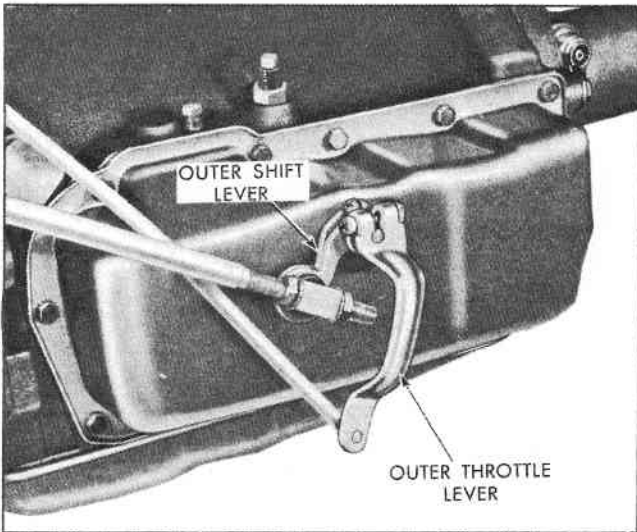

Fig. 40 Outer Throttle and Shift Control Levers
2. Loosen both front and rear trunnion lock nuts (Fig. 40) and remove trunnion from outer shift lever.